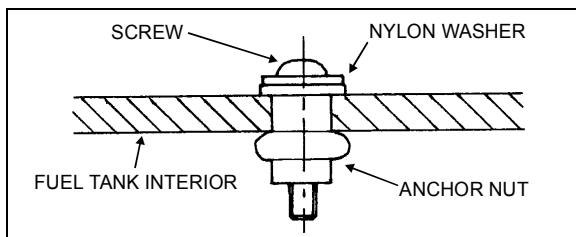

FIGURE 12: FUEL TANK REPAIR
5. Place assembly in drill hole. Tighten screw by 10 complete turns. Refer to Fig. 12.